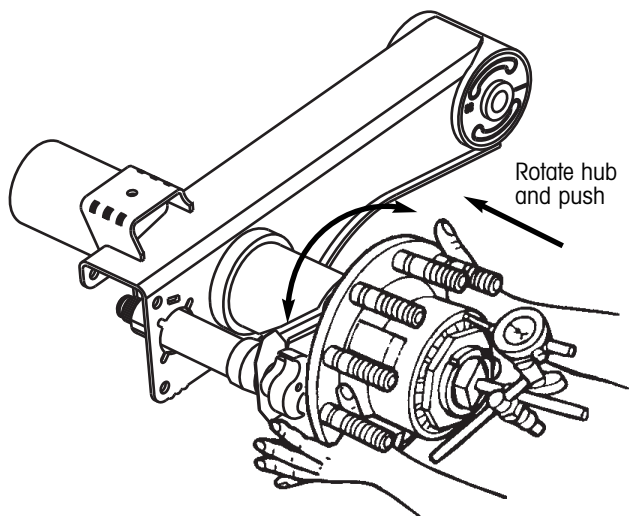

Figure 6. Push the hub inward while rotating in both directions
3. Slightly rotate the hub in both directions while pushing the hub inward until the dial indicator reading remains constant (figure 6).